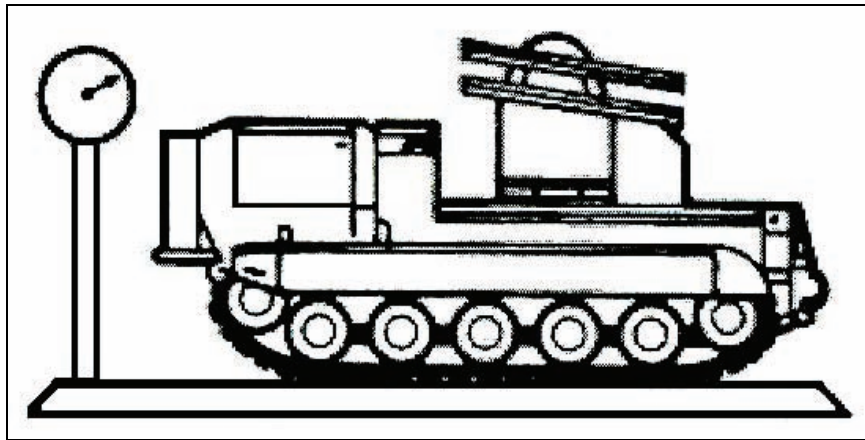

Figure 3-101. Determining the Weight of a Tracked Vehicle
7. Direct personnel to determine the weight of a tracked vehicle using prescribed procedures (see Figure 3-101).